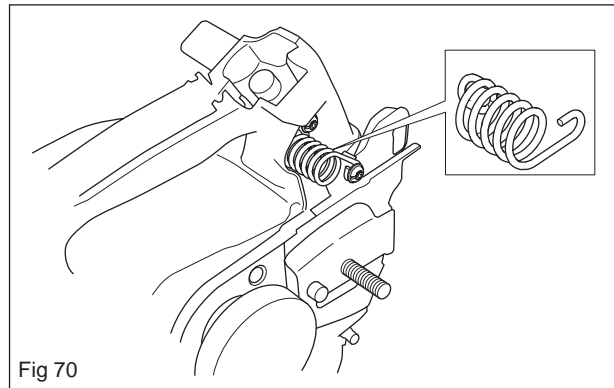

Fig 70
2. Dismantle the springs as shown in figures 70, 71 and 72.
1. Assemble the springs as shown in figures 70, 71 and 72.